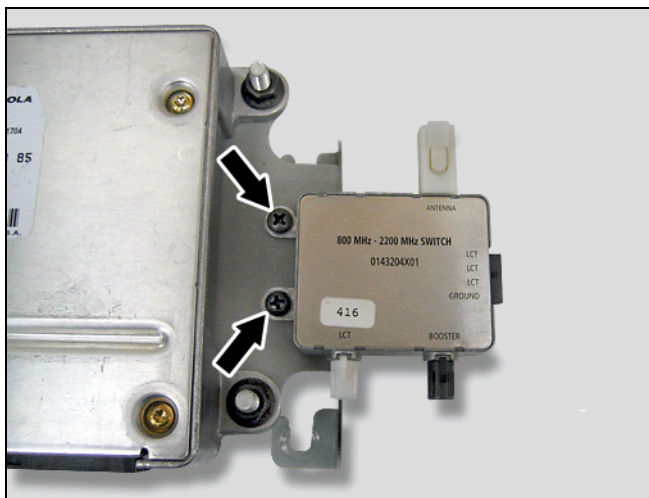

Figure 8
2. Mount the antenna switch to the pre-tapped screw holes in the bracket front—right of the mounted MHI control module—with two Phillips head machine screws (Figure 8).